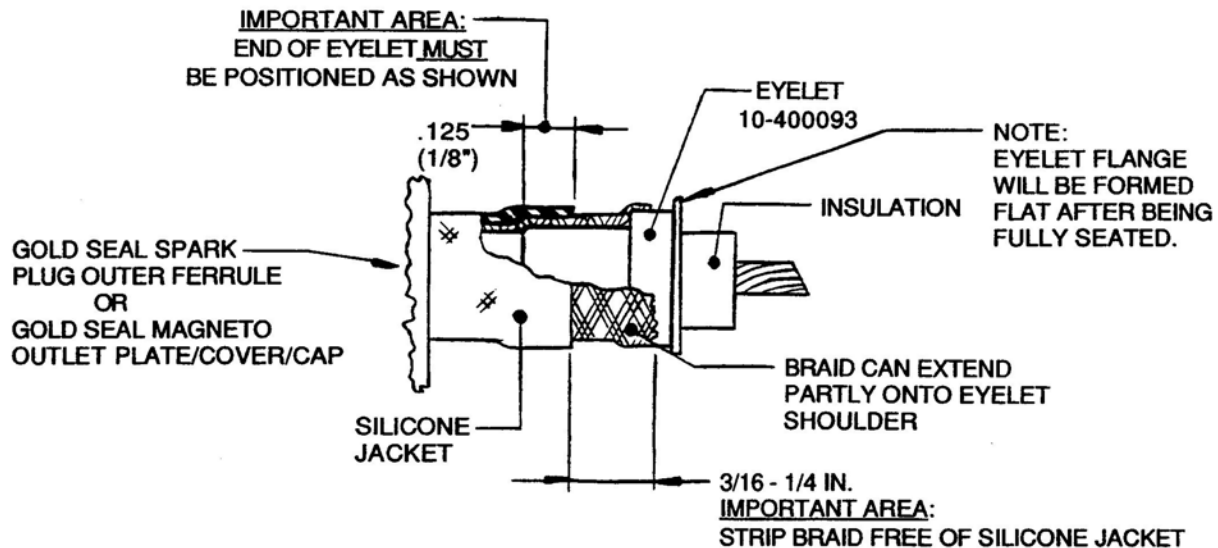

FIGURE 2: POSITIONING OF BRAID ON EYELET, CUTAWAY VIEW
- a. Insure 3/16 inch of silicone jacket is stripped from end of shielding as shown in Figure 2.
- b. Insert P/N 10-400093 Eyelet under braiding to position shown in Figure 2.